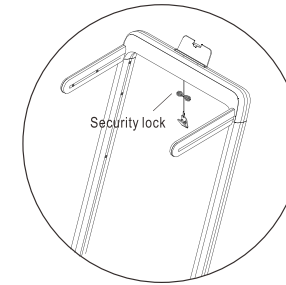
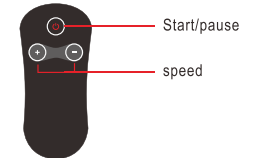

figure 1
figure 2
Bent your knees slightly and slowly bend your body to relax your back and shoulders. And try to touch your toes with your hands. Hold for 10-15 seconds, then relax. Repeat three times (see figure 1)
Sit on a clean seat cushion and straighten one leg. Bring the other leg in close to the inside of the leg. Try to touch your toes with your hands. Hold for 10-15 seconds, then relax. Repeat with each leg three times (see figure 2)
2. Hold the remote control and aim it at the display window of the treadmill (as shown in FIG. 2) within 10 seconds after unplug the treadmill security lock (as shown in FIG. 1). Meanwhile, press the start/pause button on the remote control for about 3 seconds, and the system will sounds "didi... ", indicating that the remote control and treadmill have been successfully paired, and the remote control can be used to control the treadmill normally.